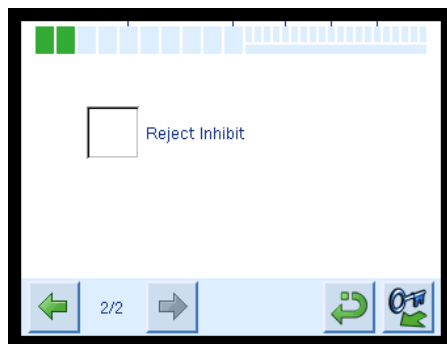

Figure 98:
2. When you have entered the appropriate product name and codes, press the **Right Arrow** key to move onto the next screen, Figure 98.